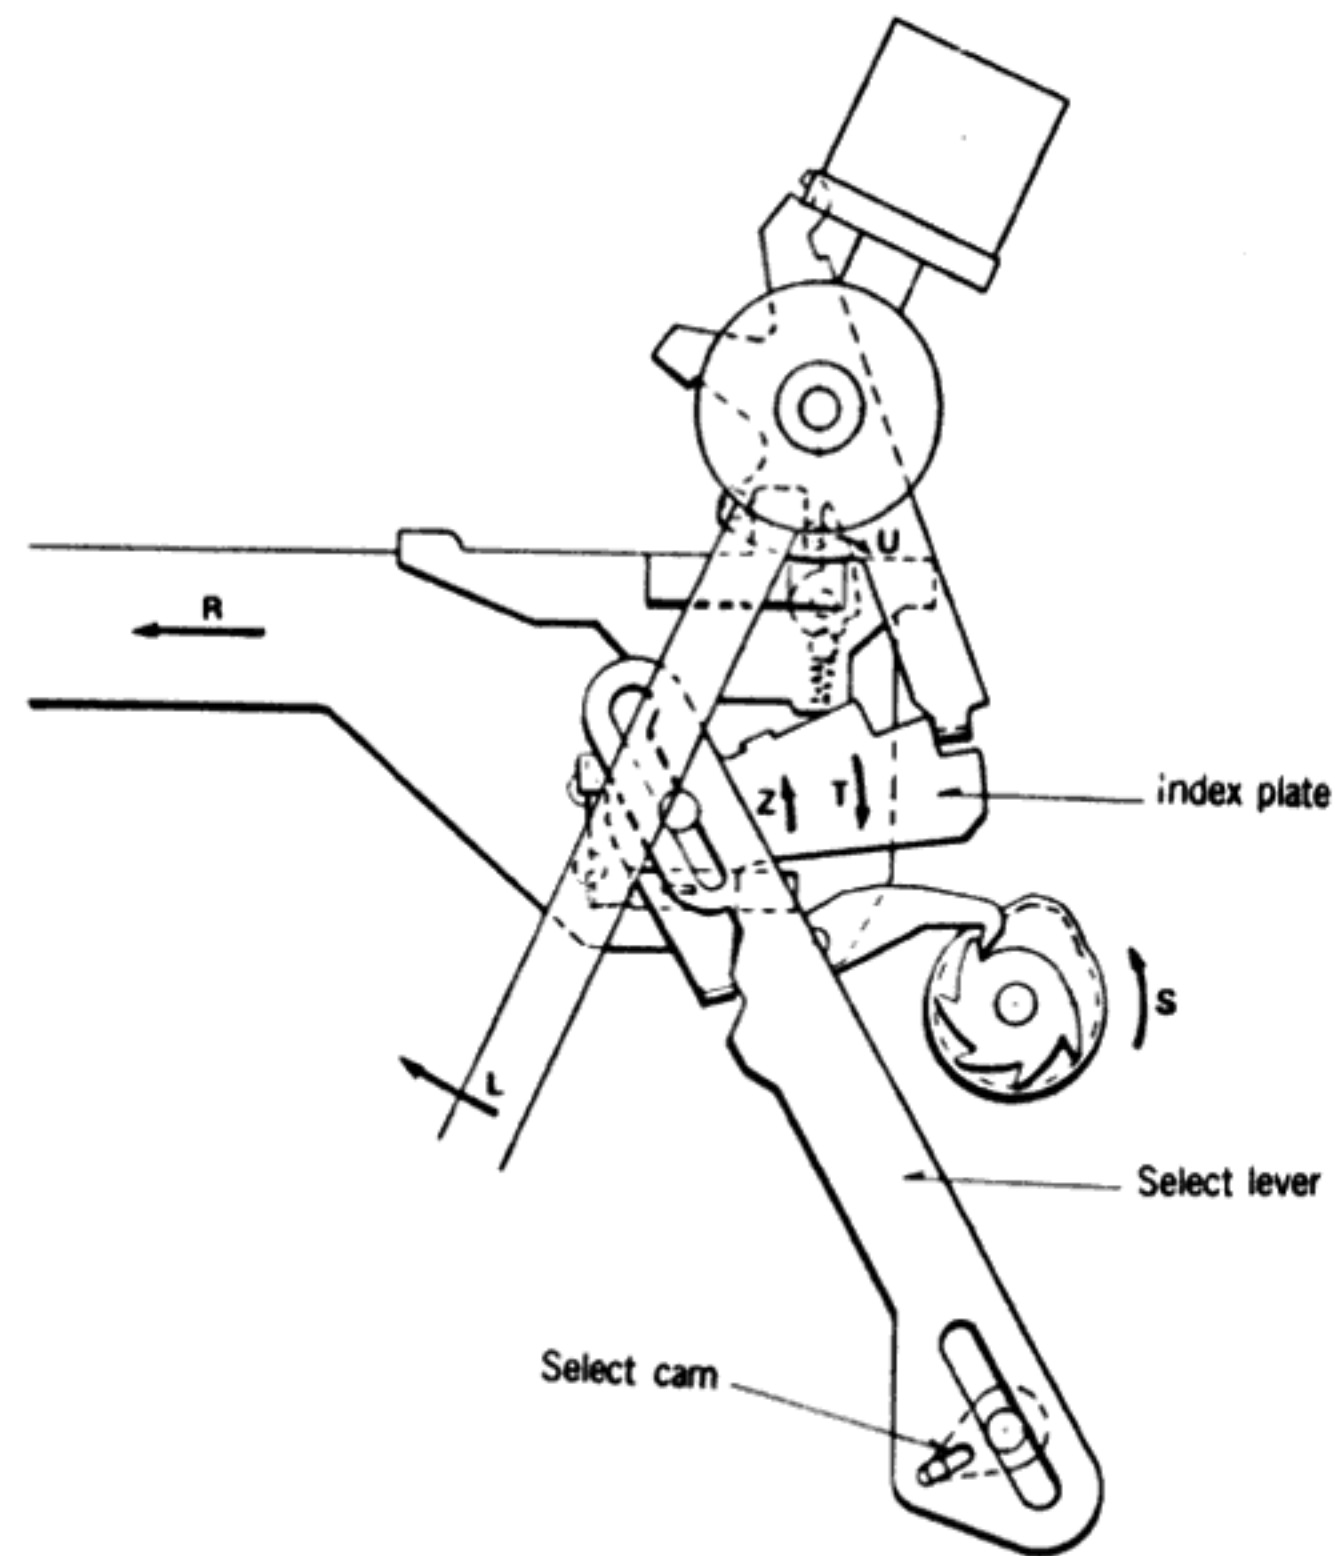

Fig. 3
3. Tonearm movement operation (Figure 3)